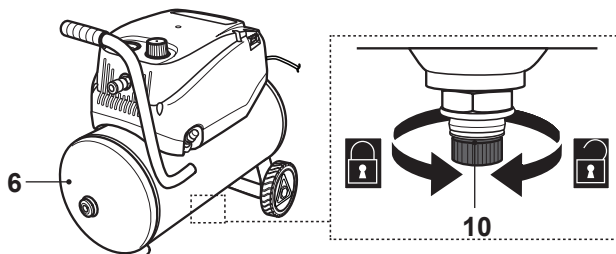

Fig. 9
- > Place a suitable container under the pressure vessel (6) and unscrew the drain valve (10) from the drainage opening (Fig.9).